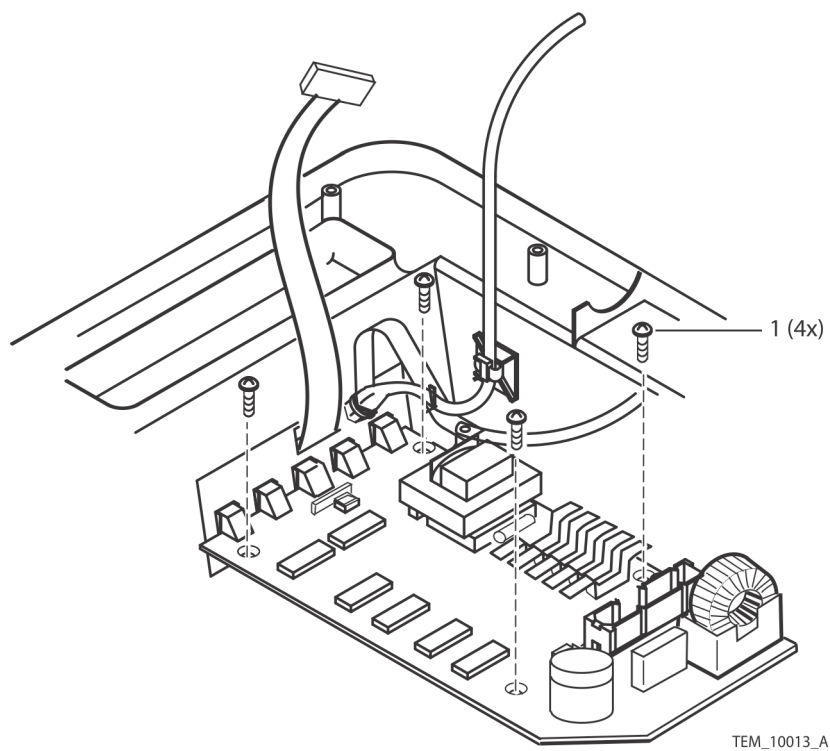

Figure 5-13. Control PCB Screws
17. Carefully place the Control PCB into the replacement front cover assembly and install the mounting screws. Tighten the screws to 4 to 6 in/lbs (10 to 15 cm/kg). See Figure 5-13.